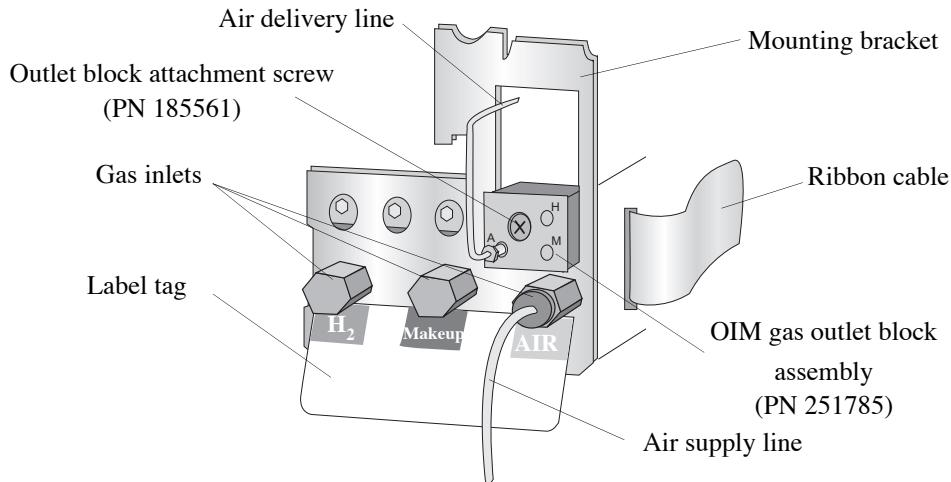

Figure 3.17. OIM gas flow module (venting option configuration)
- If using a venting option, remove the protective cap from the gas inlet marked "Air" on the gas flow module front. Attach the air supply line to this inlet using a $\frac{1}{8}$ " brass Swagelok nut and brass ferrule (refer to Figure 3.17).
- If using the venting option, attach the supplied $\frac{1}{16}$ " stainless steel air delivery line (PN 193409) to the gas outlet marked as "A" on the OIM outlet block using a $\frac{1}{16}$ " nut (PN 223057) and ferrule (PN 216366) (refer to Figure 3.17). This line provides oxidant gas flow in the 20–40 mL/minute flow range to the XSD.